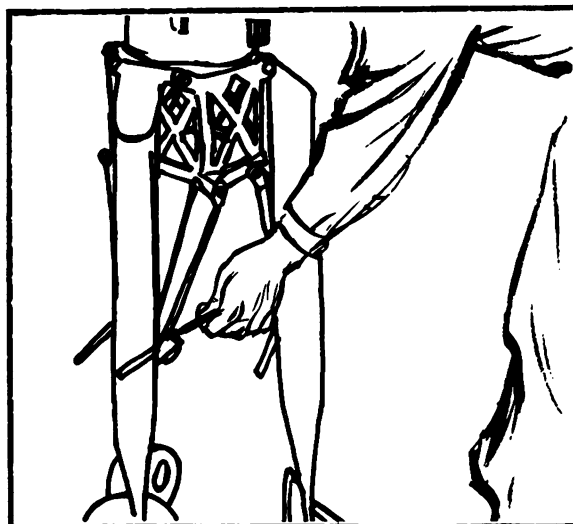

Figure 1. Releasing friction locks.
a. Place the tripod on the ground so that two legs are facing in the direction of fire (grooved coupling clamp locking handle to the front). Release the friction locks on each leg (figure 1).